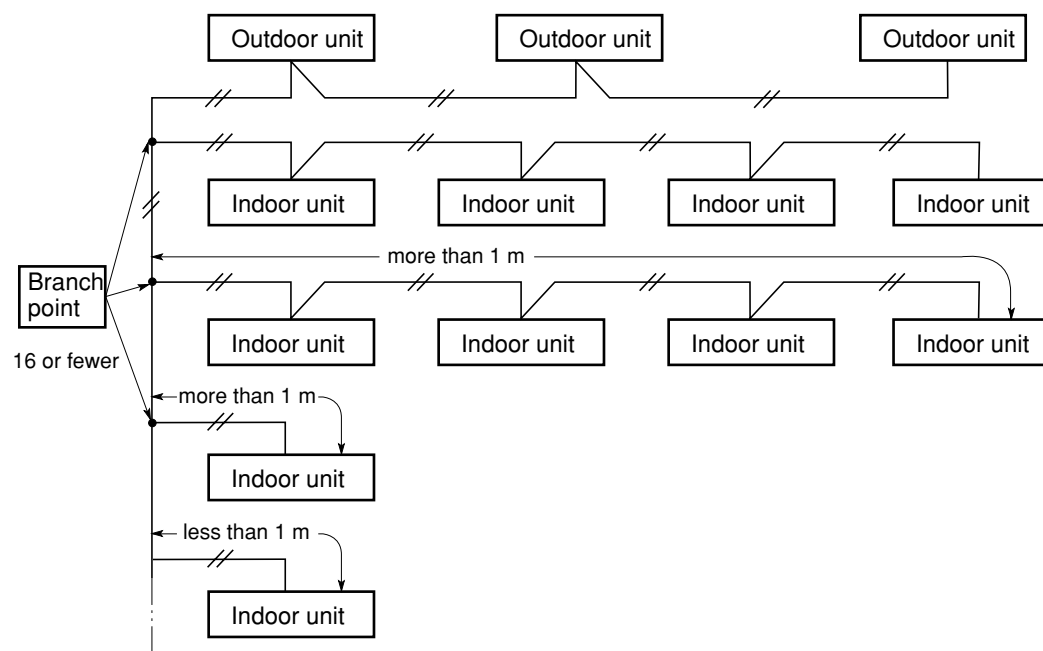

Fig. 5-3
- (4) If branching the inter-unit control wiring, the number of branch points should be 16 or fewer. (Branches less than 1 m are not included in the total branch number.) (Fig. 5-3)